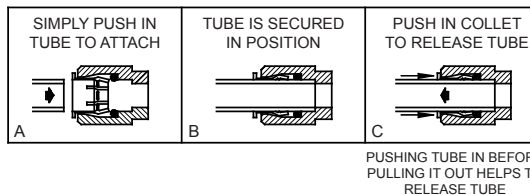

Figure 13 – Filter Quick Connect Fittings
**Actuation of Quick Connect Water Fittings:** Cooler is provided with lead-free connectors which utilize an o-ring water seal. To remove tubing from the fitting relieve water pressure, push in on the gray collar while pulling on the tubing. (See Figure 13) To insert tubing, push tube straight into fitting until it reaches a positive stop (approximately 3/4").